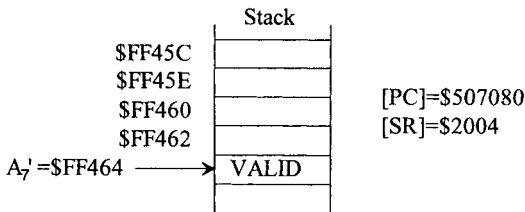

FIGURE P10.36
- 10.36 Assume the 68000 stack and register values shown in Figure P10.36 before occurrence of an interrupt. If an external device requests an interrupt by asserting the  $\overline{IPL2}$ ,  $\overline{IPL1}$ , and  $\overline{IPL0}$  pins with the value  $000_2$ , determine the contents of  $A7'$  and SR during interrupt and after execution of RTE at the end of the service routine of the interrupt. Draw the memory layouts and show where  $A7'$  points to and the stack contents during and after interrupt. Assume that the stack is not used by the service routine.